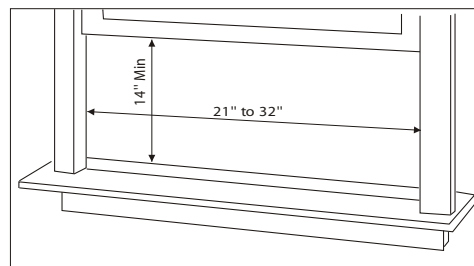

Fig. 1
1. If your air conditioner cabinet 18" wide, it will fit window openings 21" to 32" in wide. Minimum opening height is 14" from bottom of sash to sill (Fig. 1).